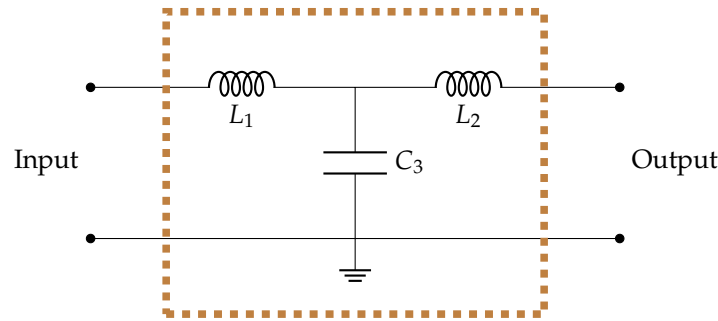

Figure 5.3: Two-port network II
**Task 3.** Consider the two-port network illustrated in Figure 5.3. Calculate the ABCD parameters for the network in terms of  $L_1$ ,  $L_2$ ,  $C_3$  and the frequency  $f$ .
**Task 10.** Implement the circuit given in Figure 5.3 on the breadboard with  $L_1 = L_2 = 10 \text{ mH}$  and  $C_3 = 10 \text{ nF}$ . Connect a load  $Z_L = 1 \text{ k}\Omega$  to the output port. Using the signal generator, provide a  $1 \text{ V}$  peak-to-peak sinusoidal signal